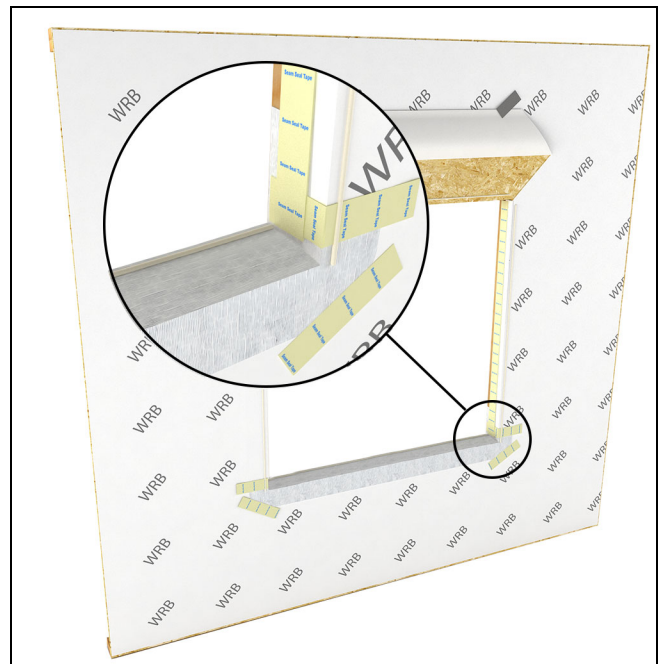

Figure 11
7. Apply seam seal tape over the corners. Place plastic or composite shims at the ends and in the middle of the RO to counter the slope of the sill wedge and support the unit. Fasten with adhesive or finish nails. If using finish nails, place adhesive under shim where the nail will penetrate. See Figure 11.